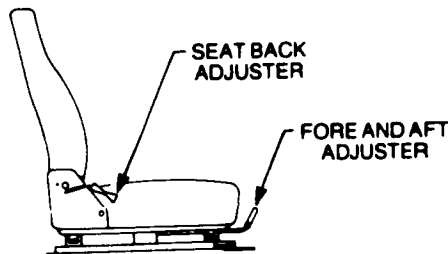

Figure 1-15 Seat adjustment
**90. Cabin seating (Fig. 1-15)**
The cabin seating is adjustable as illustrated in Fig. 1-15.